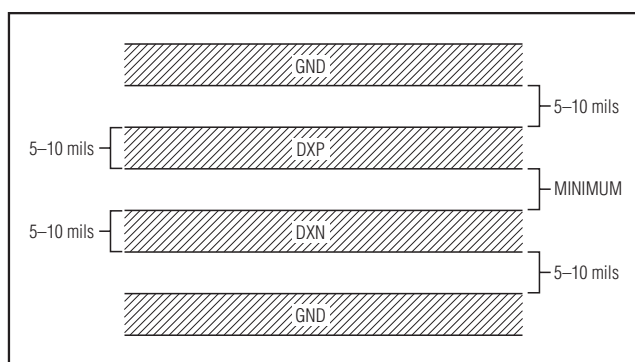

Figure 5. Recommended DXP-DXN PCB Traces. The two outer guard traces are recommended if high-voltage traces near the DXN and DXP traces.
- 3) Route the DXP and DXN traces in parallel and in close proximity to each other. Each parallel pair of traces should go to a remote diode. Route these traces away from any higher voltage traces, such as +12VDC. Leakage currents from PCB contamination must be dealt with carefully since a 20MΩ leakage path from DXP to ground causes about +1°C error. If high-voltage traces are unavoidable, connect guard traces to GND on either side of the DXP-DXN traces (Figure 5).